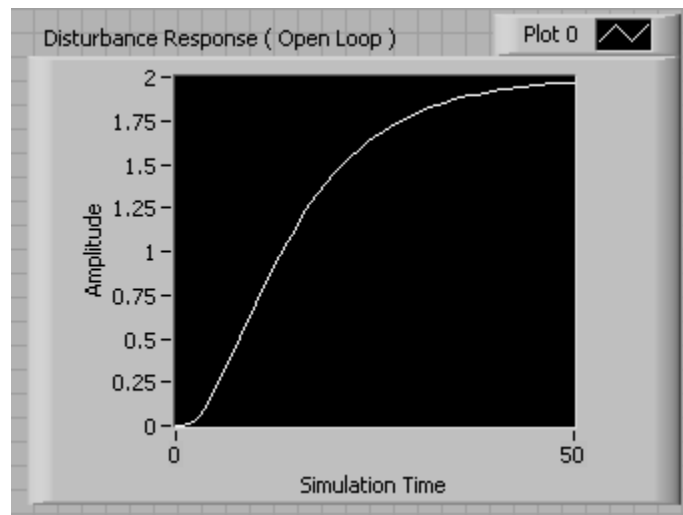

Figure 6. Unit disturbance response of open-loop system
11. Now simulate the open-loop unit disturbance response. Double-click on U and set final value to 0. This eliminates the unit step in the manipulated variable. Double-click on D and set step time to 0 and final value to 1. This creates a unit disturbance step. Again, hit the **Run** arrow to begin the simulation. The front panel will show the response. Double-click on the graph title to replace Step Response (Open-Loop) with Disturbance Response (Open-Loop). Figure 6 shows the resulting plot. Notice that the open-loop set-point response and disturbance response are the same. Why is this expected?